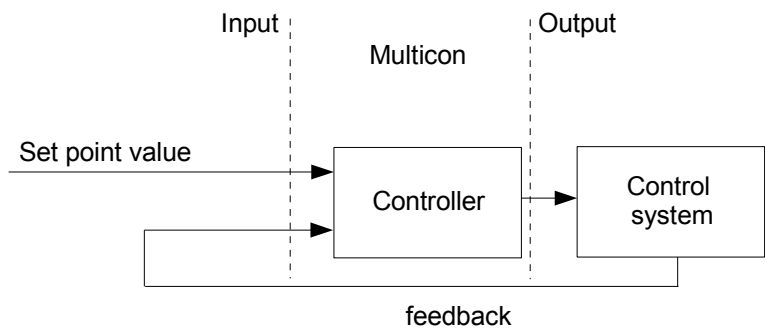

Fig. 7.49. The overall structure of control system implemented in the device
- **Set point channel** - this parameter allows the user to select a logical channel with set point value (see Fig. 7.49), **Set point channel** defines input data for process control,
- **Feedback channel** - this parameter allow the user to select a channel with data returned from control system (see Fig. 7.49), **Feedback channel** define input data for process control,